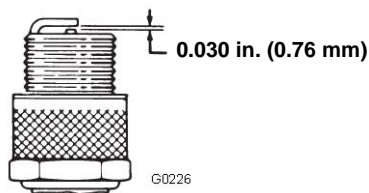

Figure 33
5. Set the gap on the plug to 0.030 in. (0.76 mm) (Fig.33)